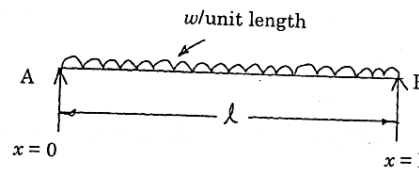

Fig 11 (b).
- (b) A simply supported beam is subjected to uniformly distributed load over entire span as shown in Fig. 11(b). Determine the bending moment and deflection at midspan by using Rayleigh Ritz method. (16)